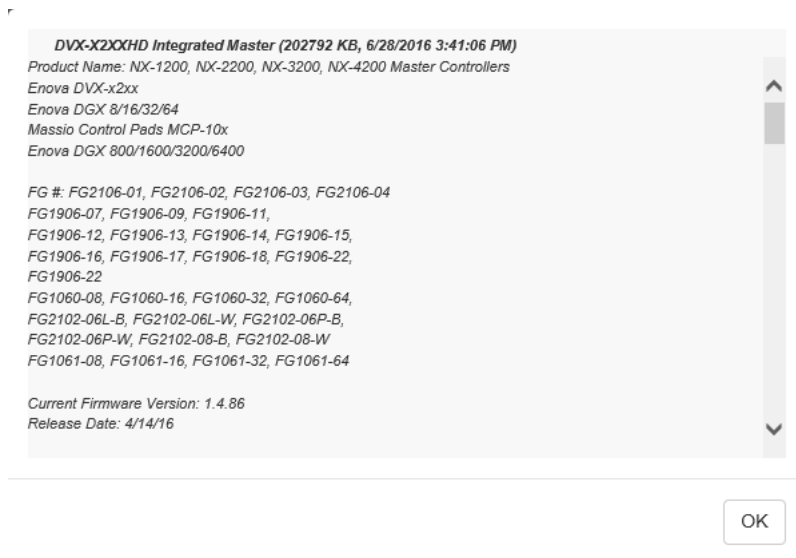

FIG. 50 Update Manager - example File Info window
2. This opens the *File Information* window for the selected file (FIG. 50):